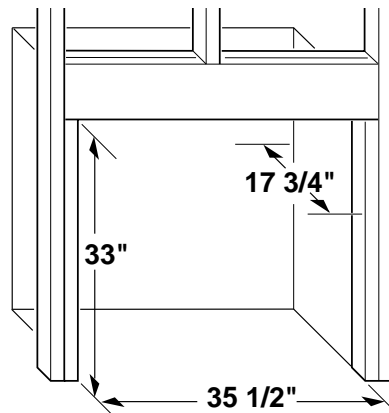

Figure 11 - Rough Opening for Installing in Wall
1. Frame in rough opening. Use dimensions shown in Figure 11 for the rough opening.